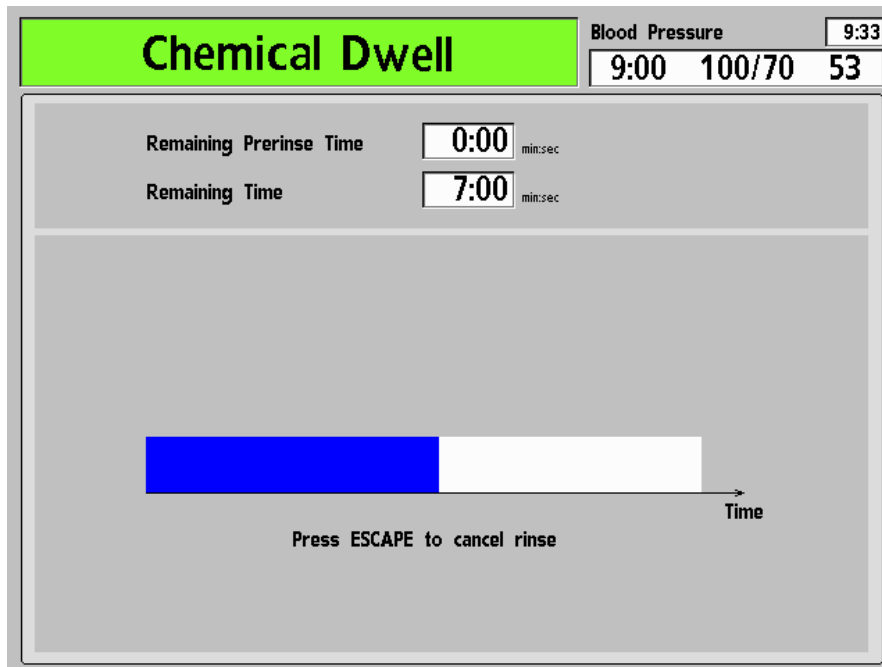

Figure 62 – The Chemical/Dwell Screen
5. The “Chemical/Dwell” screen appears in the display (see Figure 62). The progress of the disinfection program is indicated by the horizontal bar. The program starts with a 45 second rinse. The message, “Rinsing Line, Please Wait” is displayed in the Status Box.